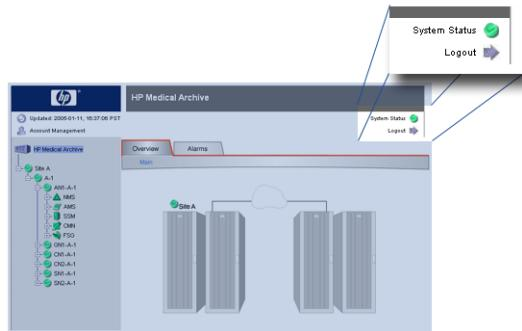

Figure 2: Location of the Logout Button
1. Click on the **Account Management**  Account Management button in the top left of the Header frame (Figure 2 on page 7).